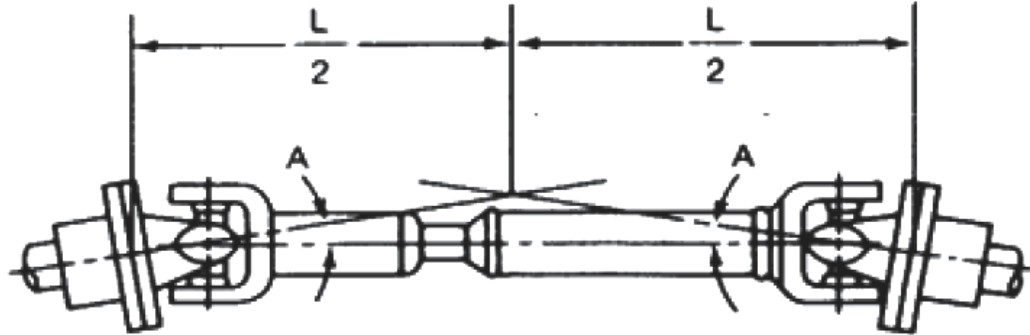

Figure 2
1.4.2 Joint angles must be equal within  $\frac{1}{2}$  degree. Joints, working in pairs will vibrate if they are not working at the same angle within  $\frac{1}{2}$  degree. (See Figure 2).
1.4.5 In the alternate installation (Figure 2) the centerlines of the output and input shafts must intersect at the center of the driveshaft. Consult factory for installation using this method.